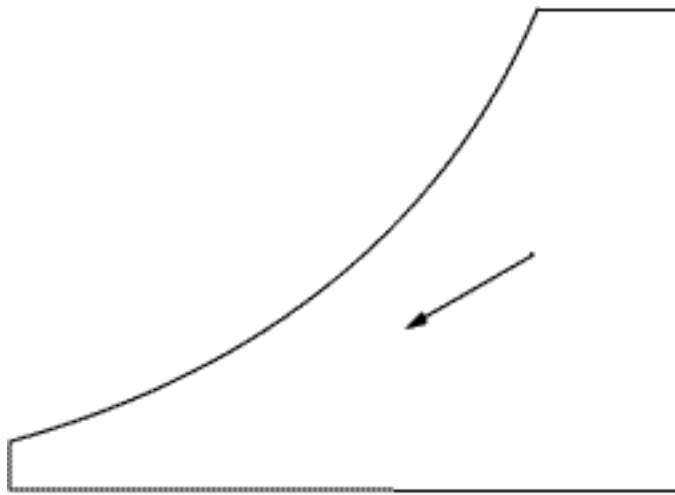

Figure 3.6. Cooling and Dehumidification.
4. Cooling and Dehumidifying: Is the air-conditioning process that normally takes place during summer. The cooling coil, at the same time cools the air and condenses moisture as the air passes through it. The total heat and wet bulb and dew point temperature all decrease. (Figure 3.6)